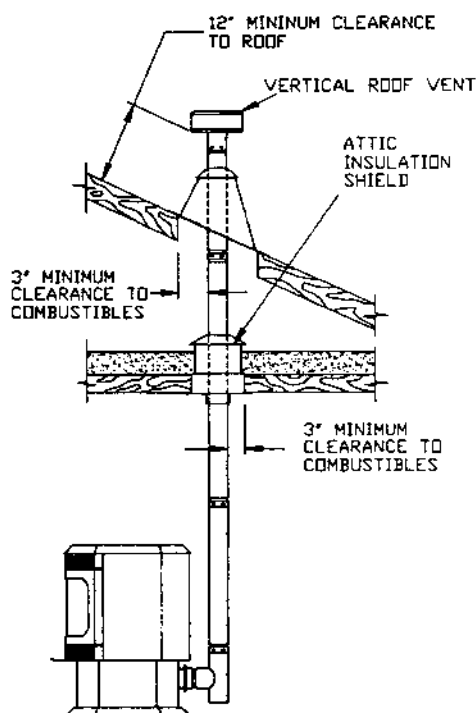

Figure 4
B. VERTICALLY WITH NEW CHIMNEY SYSTEM (see Figure 4)